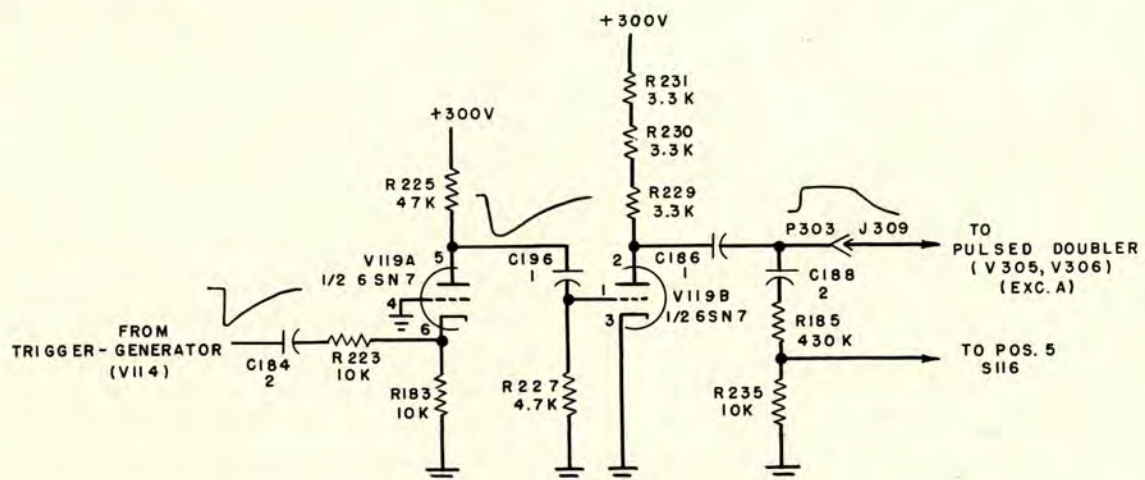

Figure 2-5. Simplified Schematic Diagram of Squaring Amplifier (Part of Exciter A)
e. SQUARING AMPLIFIER. — The squaring amplifier (or limiter-amplifier) section of the pulse former (figure 2-5) utilizes a 6SN7W twin triode (V119) in a two-stage pulse-shaping circuit. Plate voltage for the tube (+300 volts) is supplied by the low voltage and bias rectifier, V118 (refer to figure 7-38 and paragraph 11a). Signal input is supplied by the wider of the two pulse outputs from the trigger generator (paragraph 6d).
in the cathode circuit. To avoid polarity inversion through the tube, the negative pulse input from the trigger generator is applied to the cathode instead of the grid. Resistor R223 is included in the input circuit to reduce the amplitude of the input signal. This signal overcomes the bias and, having the same effect as a highly positive signal on the grid, causes the grid to draw current. The grid current causes limiting and flattens off the bottom of the waveform appearing at the plate as illustrated in the facsimile on figure 2-5. Capacitor C196 couples this signal to the grid of V119B.
The second section (V119B) of the twin triode operates with zero bias and, during the static condition, conducts heavily. The negative pulse from V119A drives the tube sharply to cutoff, causing the plate voltage to rise rapidly to its full value of 300 volts. The tube then limits, flattening off the waveform for a still larger portion of the total pulse. An oscillogram of the waveform appearing at the plate of V119B as viewed on the monitor oscilloscope (paragraph 10) is shown in figure 7-3 and a facsimile is shown on the schematic diagram, figure 2-5. The full output voltage is applied through capacitor C186, coaxial cable, and jack J309 to the grids of the pulsed doubler in the frequency generator section of Exciter A. (A similar rectangular wave may be developed in the pulse former of Exciter B to key the pulsed-doubler of Exciter B. See figure 7-38.) A portion of the rectangular output is tapped off a voltage divider (C188, R185, and R235) for monitoring purposes. Refer to paragraph 10 for monitoring details.